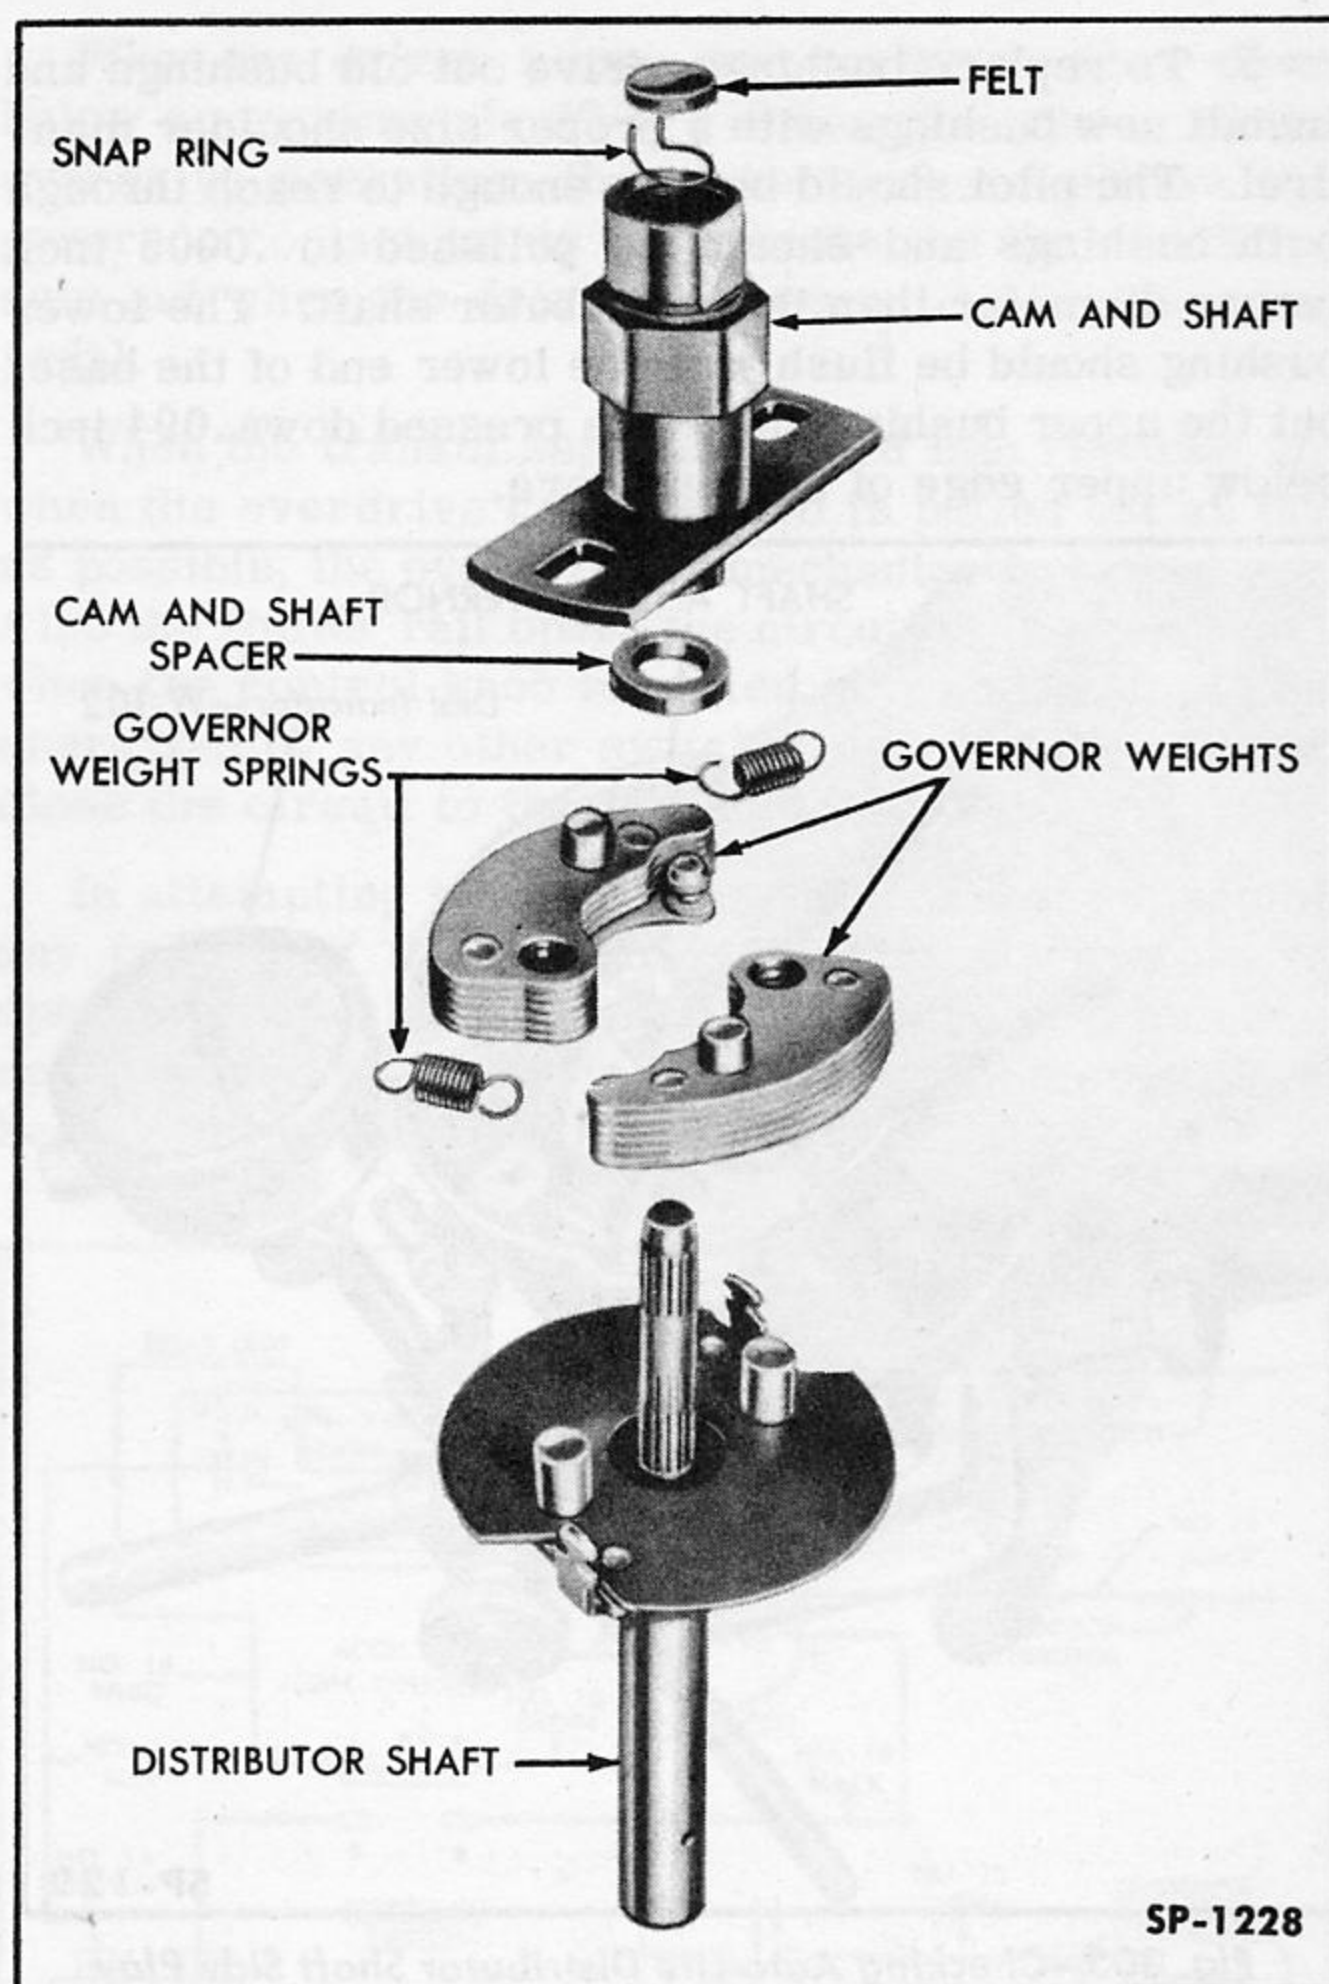

Fig. 302—Auto-Lite Distributor Centrifugal Advance Parts—Exploded View
6. Lift out felt from shaft above cam and remove snap ring (Fig. 302) that secures the cam assembly to the distributor shaft. Lift out the cam assembly.